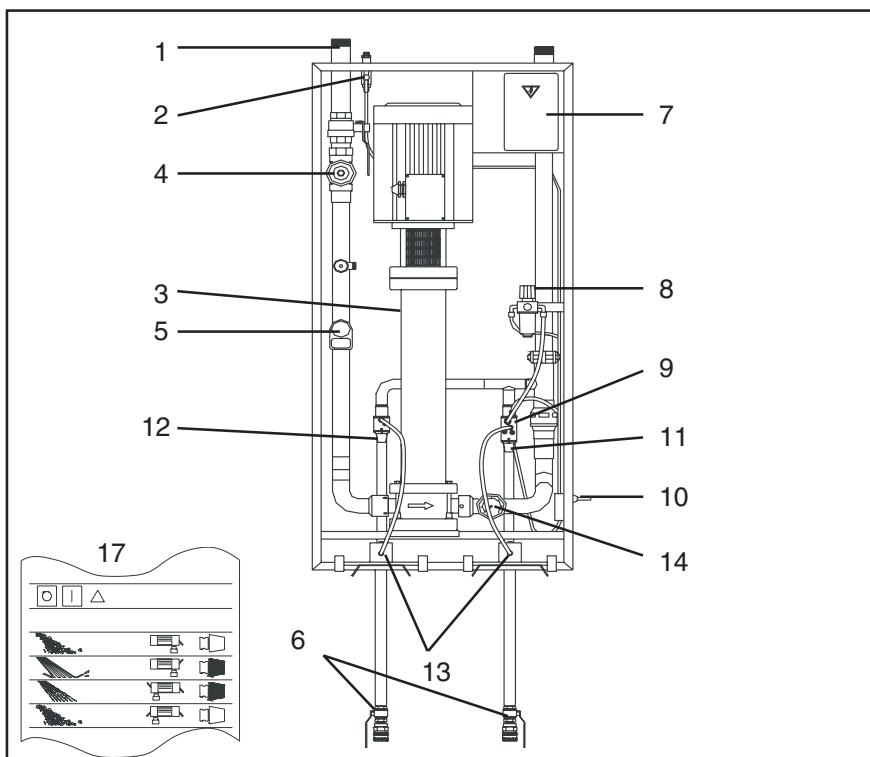

Fig. 5
**S4000 D, S4000 DU, S4100 D, S4100 DU** (fig. 5, 'User Pack').